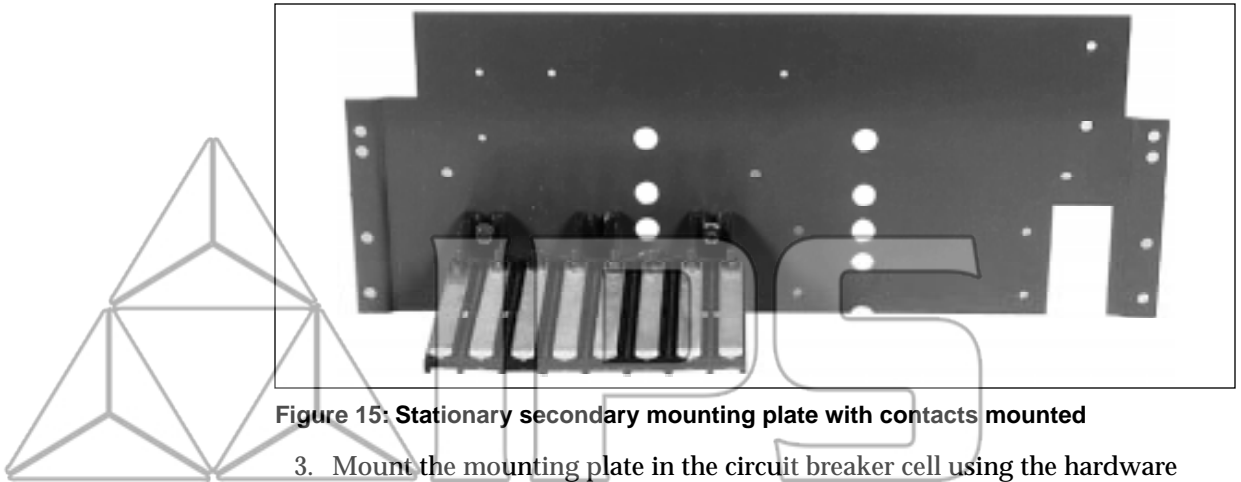

Figure 15: Stationary secondary mounting plate with contacts mounted
2. Mount the stationary secondary contacts to the mounting plate holes using the hardware provided. Refer to Figure 15.